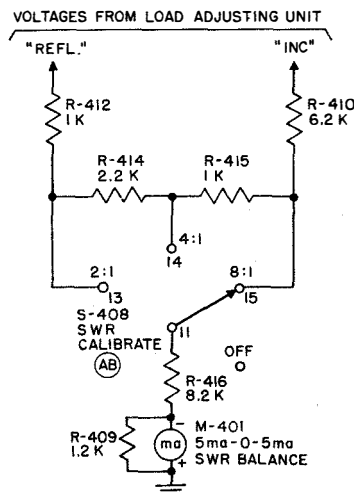

Figure 2-47. SWR Indicator Circuit, Simplified Schematic
(6) SWR INDICATOR CIRCUIT.—The SWR indicator circuit (figure 2-47) is used in conjunction with voltages supplied to it from the SWR monitor circuit, which is a component of the load adjusting unit (see paragraph 15b). The input to the SWR indicator circuit from the SWR monitor consists of two voltages of opposite polarity, one proportional to the voltage of the "reflected" wave and the other proportional to the "incident" wave as measured on the r-f output line of the transmitter. Across the input there is a tapped divider consisting of R-410, R-415, R-414, and R-412. The values of these components are such that if the standing wave on the r-f line is 8:1, the potential at the junction of the R-410 and R-415 is zero; accordingly, the 8:1 position of the SWR CALIBRATE switch, S-408, is connected to this point and the SWR BALANCE meter, M-401, would be at the center null position. If the standing-wave ratio is less than 8:1, with S-408 set at the 8:1 position, the SWR BALANCE meter M-401 will read to the left of the null position (green area) and, conversely, if the ratio is higher than 8:1, M-401 will read to the right of the null position (red area). Similarly, the voltage at the junction of R-415 and R-414 will be zero when the standing-wave ratio is 4:1. With the SWR CALIBRATE switch, S-408, set at the 4:1 position, M-401 will again read at the center null position for a value of 4:1 SWR. A 2:1 value of standing-wave ratio will give a zero potential at the junction of R-414 and R-412; consequently, the 2:1 position of S-408 is connected to this point. R-416 is a limiting resistor of sufficient size to limit the current flowing through M-401 to a value below its safe limit value of 5 ma when the transmitter is in 500-watt operation. R-409 is the damping resistor for M-401. S-408 has an OFF position that disconnects the SWR BALANCE meter, M-401, from the circuit.